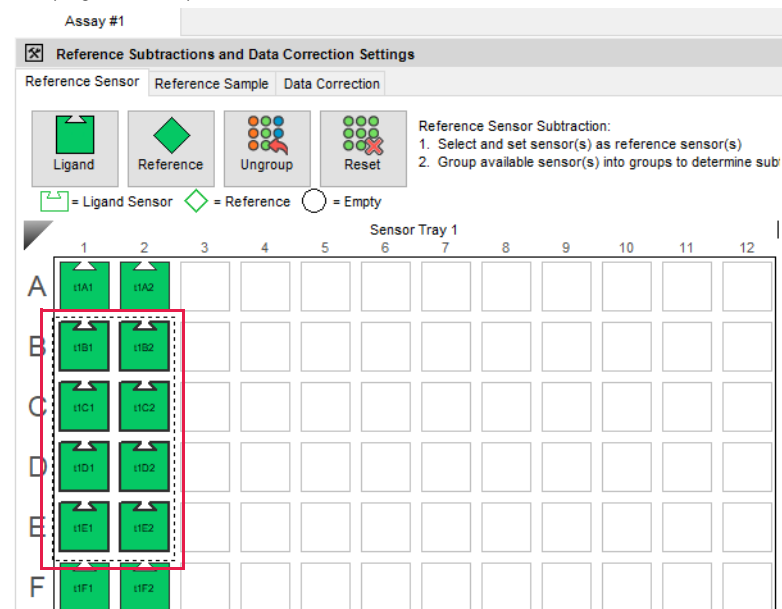

Figure 4-13: Selecting Multiple, Sequential Biosensors
- To view data for multiple sequential biosensors, use your mouse to draw a box around the biosensors (Figure 4-13).